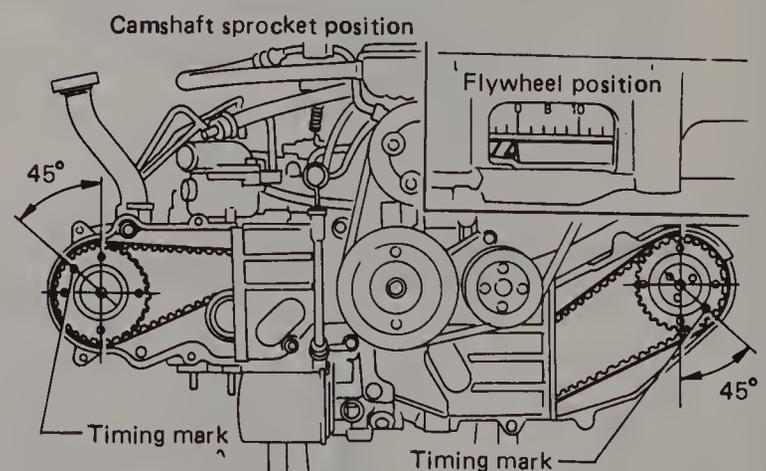

Fig. 13.22 Position the camshaft sprockets as shown here before installing the distributor (Sec 5)
- b) Position the camshaft sprockets as shown in Fig. 13.22.